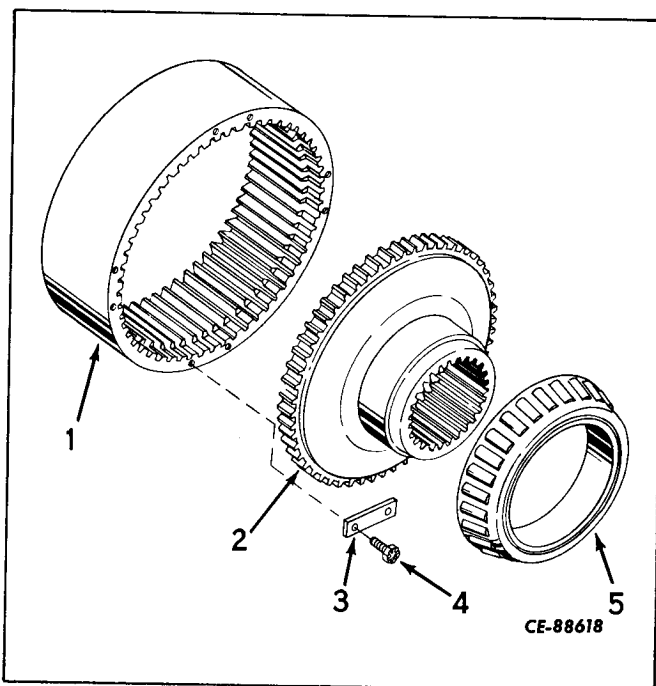

Figure 6-78
Remove the cap screws (4, Fig. 6-78) and lock plates (3) that secure the ring gear (1) to the ring gear hub (2). Remove the ring gear.
Chill ring gear hub (2, Fig. 6-78) in dry ice for 30 minutes. Install bearing cone (5) against shoulder of hub.